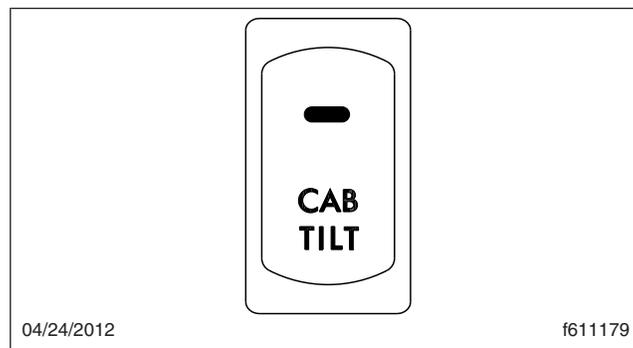

Fig. 35, Cab Tilt Switch
20. Press and hold the button on the pump until the cab nears a 45-degree angle (the balance point). See Fig. 35. Once the cab goes beyond 45 degrees, release the button on the pump and move the tilt pump lever to the TILT position in order to slow cab descent.